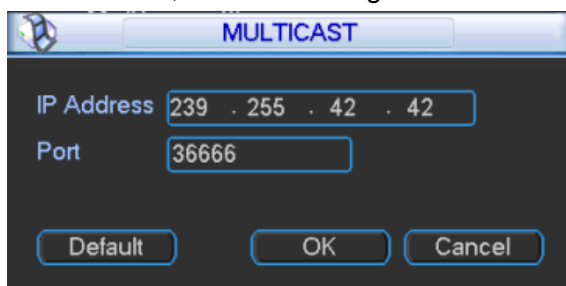

Figure 3-41
Step 1 In main menu, select “Setup> Network> Network Setup > Multicast”, and the system displays “Multicast” interface, as shown in Figure 3-41.